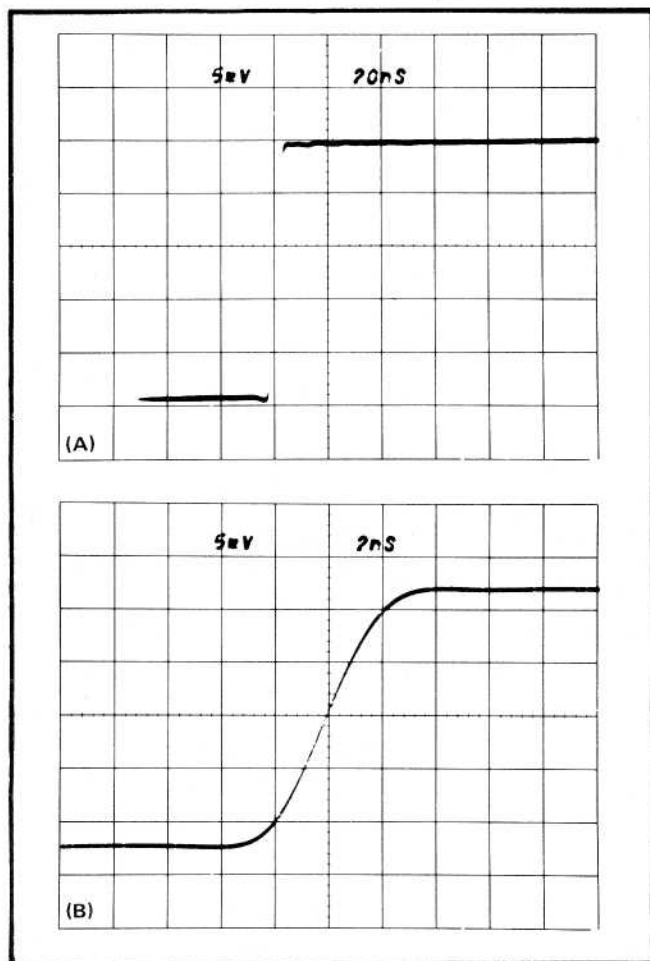

Fig. 5-4. CRT display showing (A) aberrations and (B) risetime measurement.
d. ADJUST—In order given for minimum aberrations and minimum risetime. Since these adjustments interact, readjust until optimum square-wave response is obtained (see Fig. 5-4). Use either X1 or X10 Magnifier on the time-base as required to best view the effect of each adjustment.